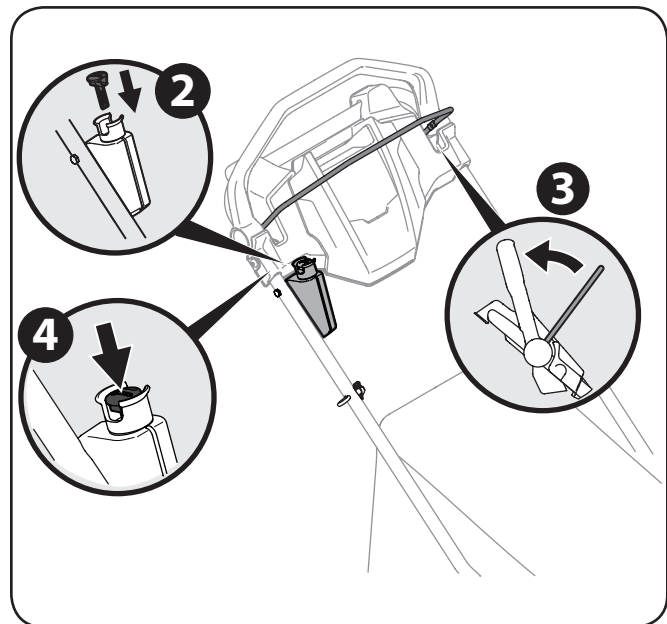

Figure 5-2
3. Standing behind the mower, pull the blade control back against the drive control. See Figure 5-2.
4. Push the electric starter push key to start the engine. See Figure 5-2.